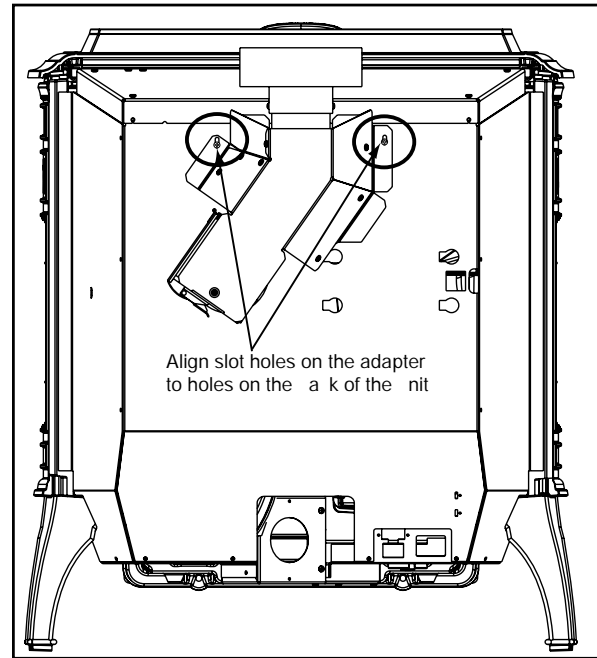

Figure 19.2
3. Align slot on left of adapter with hole in the back of the unit and secure with screw. You may drill out the hole using #26 drill bit provided but only if needed. **Figure 19.2.**
5. Drill 2 holes with #26 drill bit through the rear exhaust outlet using the 2 holes already in the short horizontal pipe in the top vent adapter as a guide. Install the screws. **Figure 19.2.**
7. To clean top vent adapter, open clean-out cover and remove any debris build-up. **Figure 19.2.**